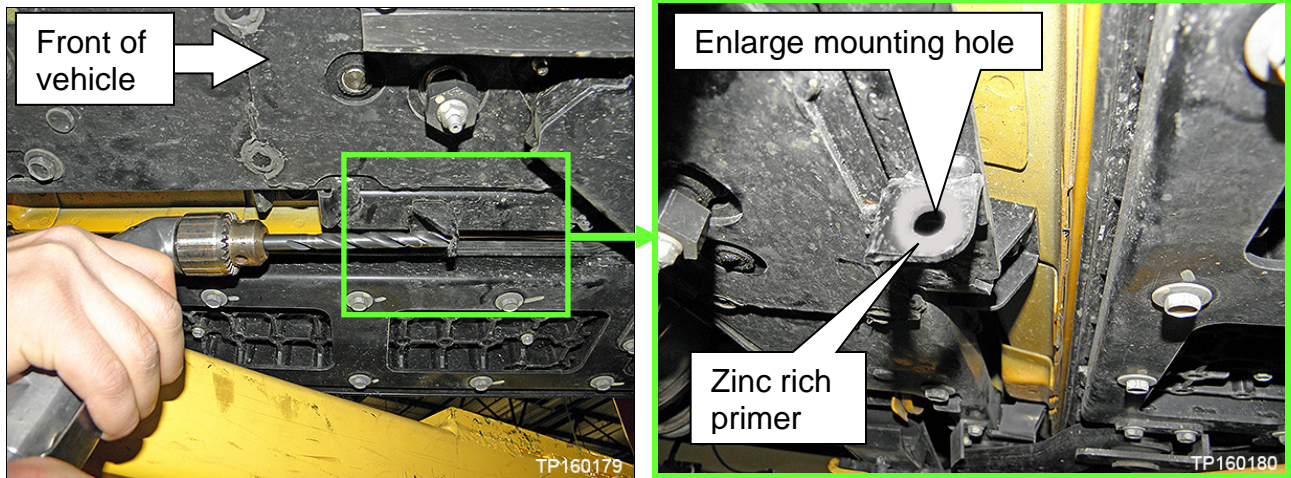

Figure 8
6. Enlarge the mounting hole that the bump stop was removed from in step 3 (see Figure 8).